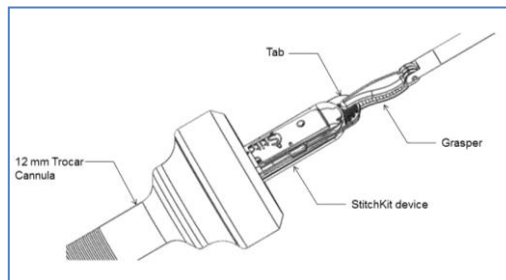

Figure 4 - Inserting the StitchKit® device using tab at end
- 5.1. Gently open the StitchKit® using the side tabs. (Figure 4)